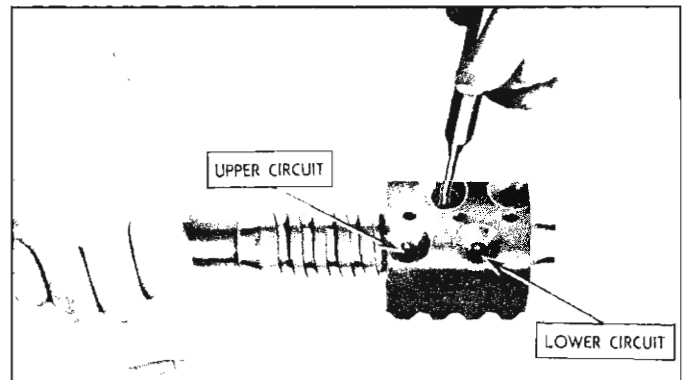

Fig. 50—Filling Ball Circuits
**NOTE:** In cases where the balls are stopped by the end of the worm, hold down those balls already dropped into the nut with the blunt end of a clean rod or punch (fig. 50) and turn the worm in the reverse direction a few turns. The filling of the circuit can then be continued. It may be necessary to work the worm back and forth, holding the balls down first in one hole then the other, to close up the spaces between the balls and fill the circuit completely and solidly.